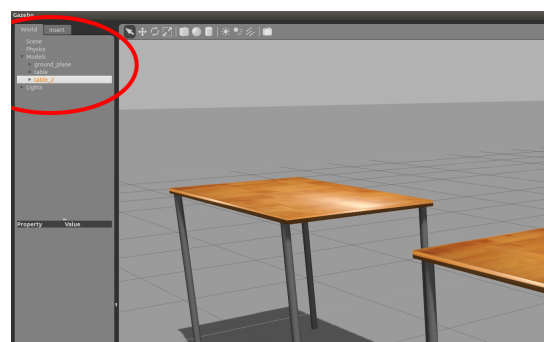

Figure 3.3: Removing one model.
4.- To remove a model from the simulation. Click on the *World* tab from the left panel. Then, expand the *Models* list (see Fig. 3.3). These are the models included in the simulation. Right click on one of the table names and click *Delete*.